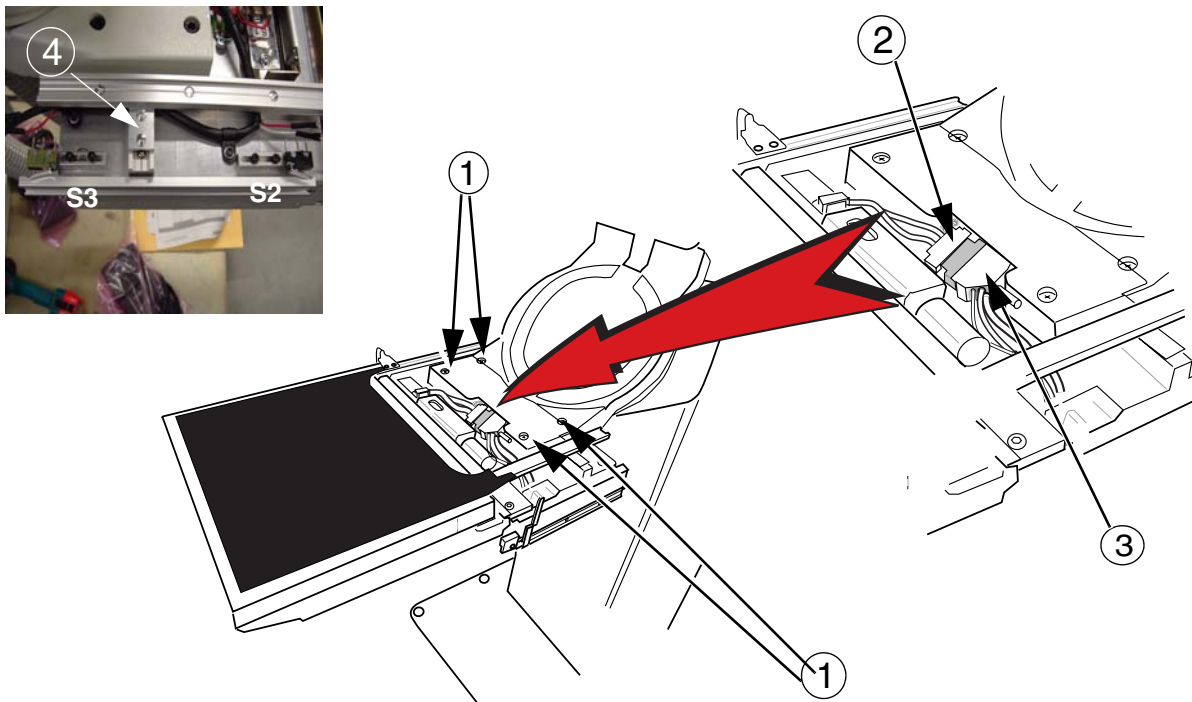

Fig. 6 Detector installation
3. Attach the detector with the four bolts (1/Fig. 6). Make sure that the bolts are tightened.
4. Loosen the grid holder, 2 screws (4/Fig. 6), and insert the detector cable underneath it. Tighten the grid holder screws again.
5. Connect the detector cable (2/Fig. 6) to the cable coming out of the wing (3 /Fig. 6).